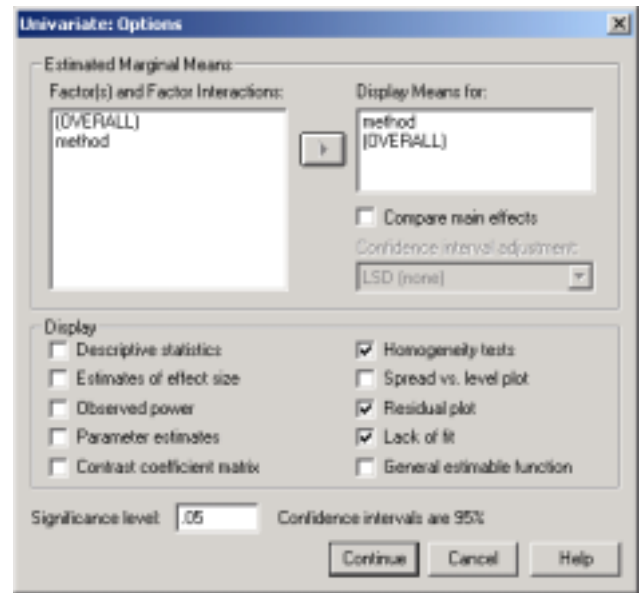

Figure 4. Options
- IV. In the Model dialog box click **Options...**, one can select options to perform model assumption checking and interval estimates for adjusted treatment yields. (See figure 4) Click Continue to go back to the main Univariate dialog box.